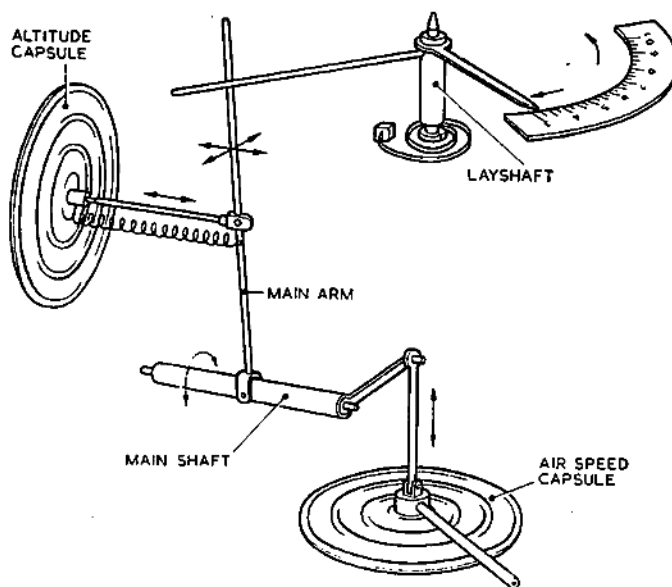

Fig. 1. Principle of the Machmeter.
5. To implement its purpose the machmeter has two main elements, one responsive to airspeed and the other to altitude, similar to the mechanisms of the A.S.I. and pressure altimeter respectively. These elements are mechanically interlinked to a pointer so that the pointer indicates, as a decimal value, the relationship between aircraft T.A.S. at any height and sonic speed at the same altitude. The operating principle is illustrated in Fig. 1, where it can be seen that the indicating pointer is actuated by a main arm which is itself governed by the movements of both the altitude and airspeed capsules.